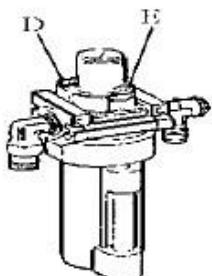

Fig. 9
Unscrew with hex wrench (E). Based on connection of compressed air, first to tread jaws open and close pedal or turntable rotation pedal 5-6 times, and then check whether oil in oil fog maker drops down a drip of oil. For continuous operation, tread twice every time, drop down a drip of oil, otherwise adjust the screw (D) that controlled oil enter with minus screwdriver (fig 9).